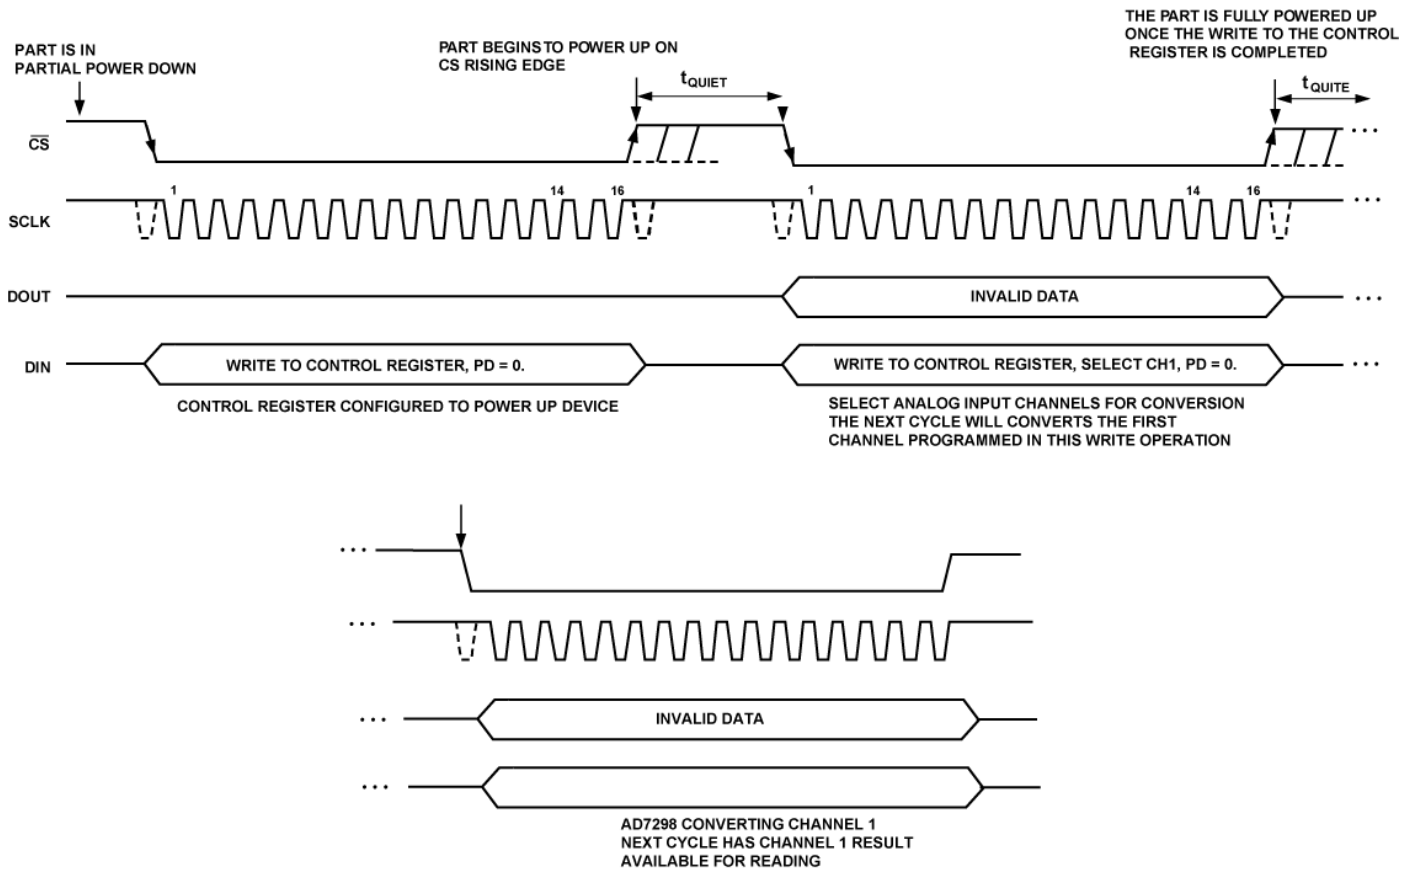

Figure 7. Partial Power Down Mode of Operation
The AD7298 remains in partial power-down until the power-down bit, PD, in the control register is changed to a logic level zero (0). The AD7298 begins powering up on the rising edge of \overline{CS} following the write to the control register disabling the power-down bit. Once T_{QUITE} has elapsed, a full 16-SCLK write to the control register must be completed to update its content with the desired channel configuration for the subsequent conversion. A valid conversion is then initiated on the next \overline{CS} falling edge. Since the AD7298 has once cycle latency, the first conversion result after exiting partial power-down mode is available in the fourth serial transfer as shown in Figure 7; 1st cycle to update PD bit, 2nd cycle to update configuration and Channel ID bits, 3rd to complete conversion, 4th access D_{OUT} valid result. The use of this mode enables a reduction in the overall power consumption of the device.